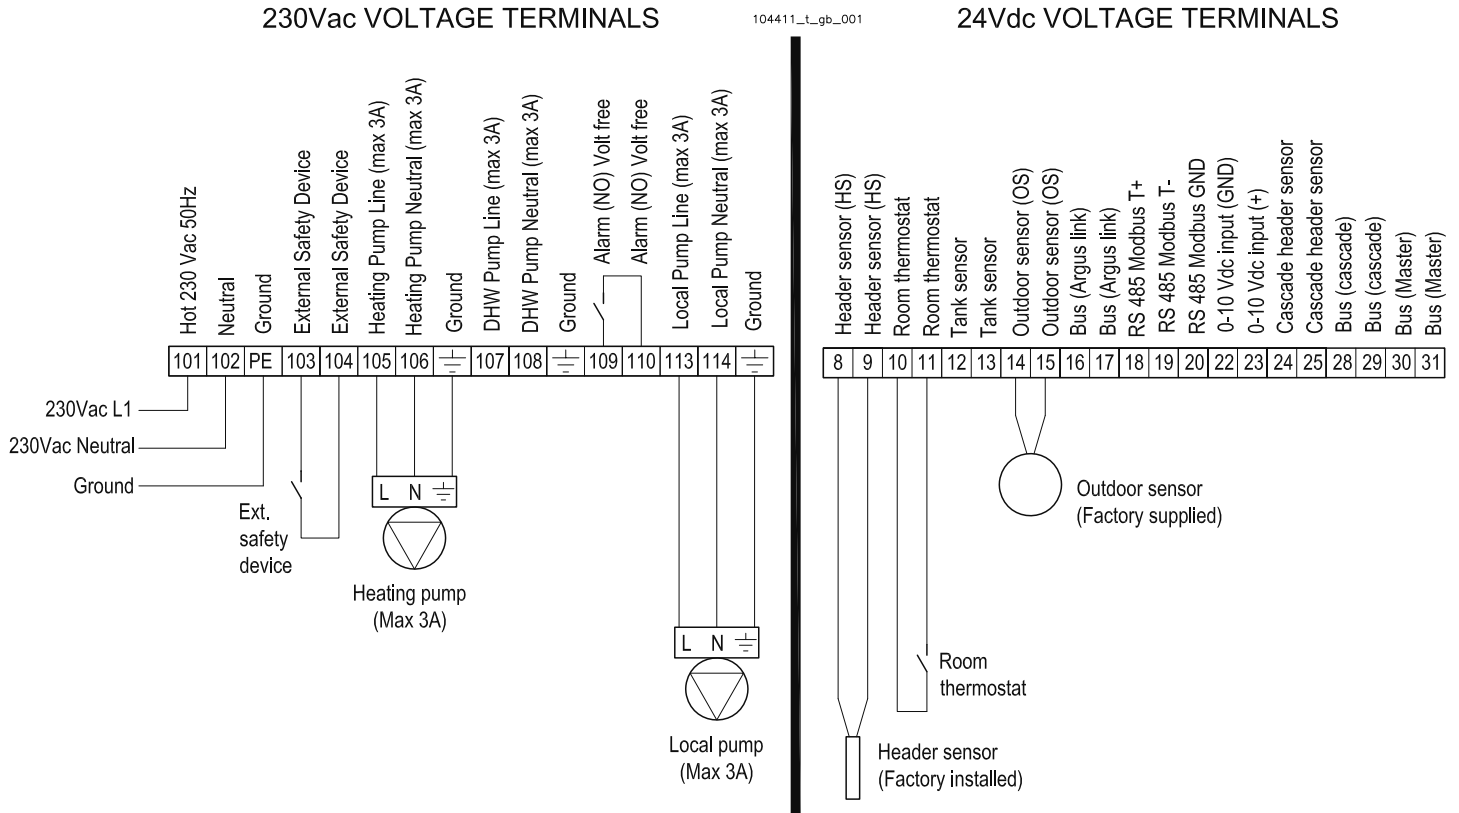

Figure 13-4 - Boiler electrical connections (Example of system shown in figure 10-1)
To connect the room thermostat cable, proceed as follows (refer to figures 13-4 and 13-5):
- 6.- connect the 2 ends of the cable to terminals "10" and "11" (see figures 13-4 and 13-5).
- 2.- connect the two-core cable to terminals "14" and "15" shown in figures 13-4 and 13-5;
For the electrical connection, proceed as follows (refer to figures 13-4 and 13-5):
- 6.- electrically connect the storage tank pump to terminals 107 and 108 of the boiler (see figures 13-4 and 13-5).